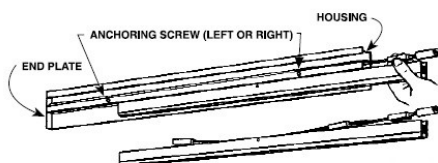

Figure 1 - Reversing the Mechanism
5. To reverse (see Figure 1), remove the small anchoring screw on the back of the unit, and slide out the drop bar and plunger assemblies together. Replace these assemblies in the opposite end, line up the hole in the end anchor with the pre-drilled hole in the case, and replace the retaining screw.